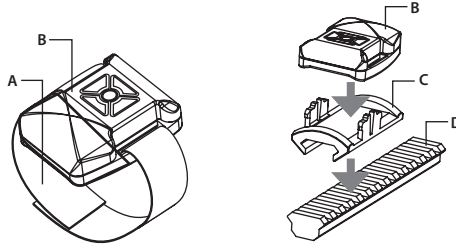

FIGURE 3-4. ADVANCED WIRELESS REMOTE CONTROL
Using the supplied Velcro tape (A, Figure 3-4), fasten the remote control (B) to an easily accessible place.